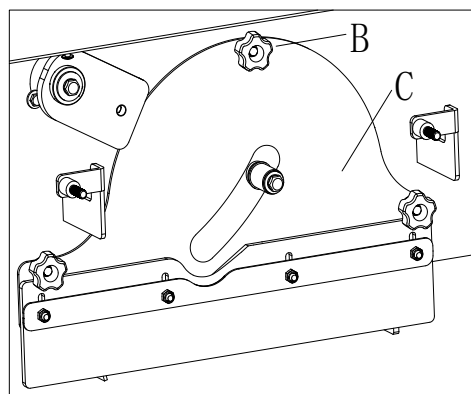

Figure 25
11. Install the broom compartment cover (C, Figure 25) by tightening the knobs (B, Figure 25).